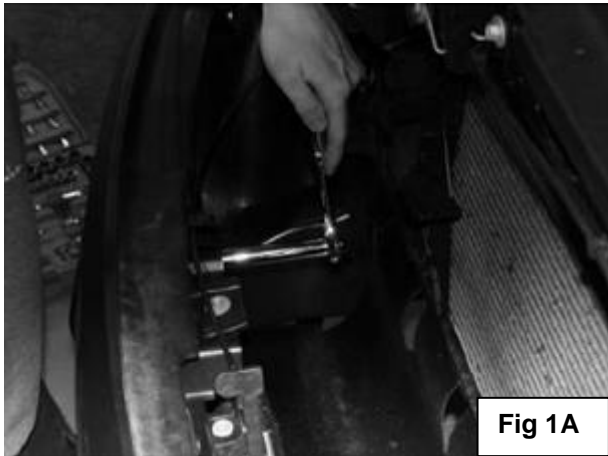

Fig 1A
5. Remove the (2) nuts from the main bumper mounting studs on each frame flange with a 21mm socket (**Fig 1A & 1B & 1C**).